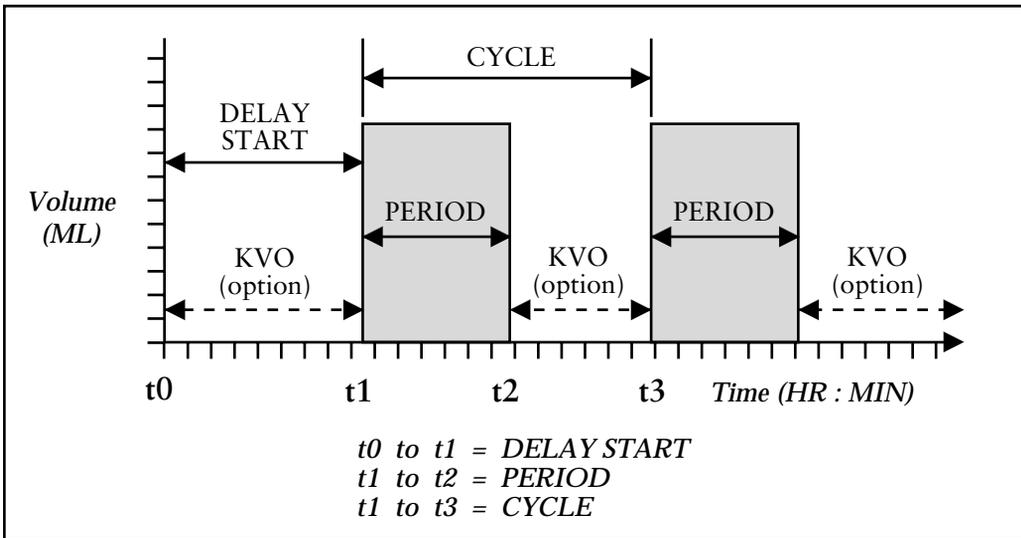

Figure 4. The Intermittent delivery mode.
Programming the pump in the Intermittent delivery mode (I mode) permits the infusion of a prescribed volume of drug (delivery volume) over a specified time period (delivery PERIOD). You can repeat that program in a cycle of up to 24 hours (delivery CYCLE). When you are not infusing a drug dose, you may also program the pump for a KEEP VEIN OPEN (KVO) function. The pump will then deliver a minimal amount of a drug to maintain catheter patency. Finally, you may also program the pump for a time delay (DELAY START) before starting drug infusion. (See Figure 4.)
You may program a specific amount of time, called the PERIOD, during which the patient will receive a prescribed volume of a drug. (See Figure 4.) The display will show the HR:MIN and PERIOD indicators that denote the current setting for the PERIOD. The effective delivery rate (ML) during the PERIOD (HR:MIN) may never exceed 75 ml/hr. The PERIOD range is from 10 minutes to 12 hours. The PERIOD is programmable in 10-minute increments.
To repeat delivery of a preset volume (ML), it is necessary to program the pump for a delivery CYCLE. (See Figure 4.) You will see the current CYCLE time in hours and minutes on the display. You can program the CYCLE from 20 minutes to 12 hours and 10 minutes. The CYCLE is programmable in 10-minute increments. The minimum amount of time for the CYCLE is the amount of time programmed for the PERIOD plus 10 minutes. The special, 24-hour CYCLE mode permits the delivery PERIOD to repeat once a day.
Setting the KVO rate is an **optional** function. Usually, you program the pump for a KVO rate when you wish to deliver a minimal amount of drug to help maintain catheter patency; consequently, you may use the KVO function between infusion periods and during the DELAY START. (See Figure 4.) The KVO setting is active between each PERIOD and during the DELAY START unless the KVO rate has been set at 00.0.